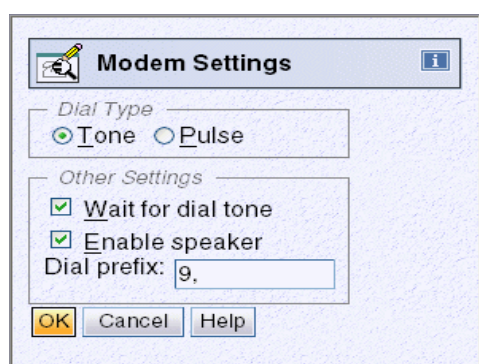

Figure 1-59 Modem Settings window
4. After clicking **Modem Configuration**, you can specify tone or pulse dialing. Wait for a dial tone, Enable speaker, and Dial prefix (Figure 1-59).